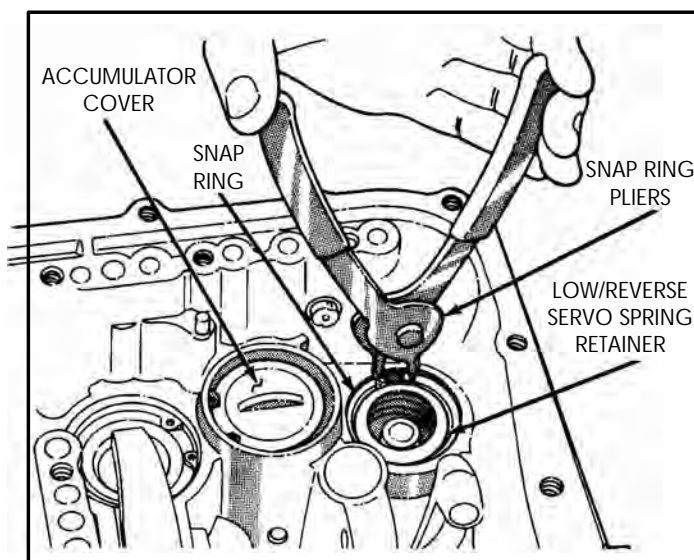

Figure 219
15. Compress retainer against spring pressure and install snap ring using the snap ring pliers, as shown in Figure 219.